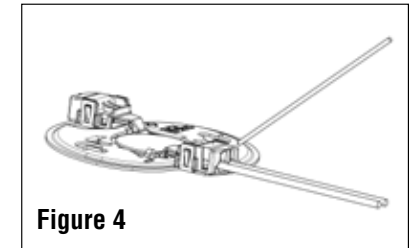

Figure 4
- Insert a 0.040 inch (1 mm) diameter pin in to wire removal slot. (Figure 4)